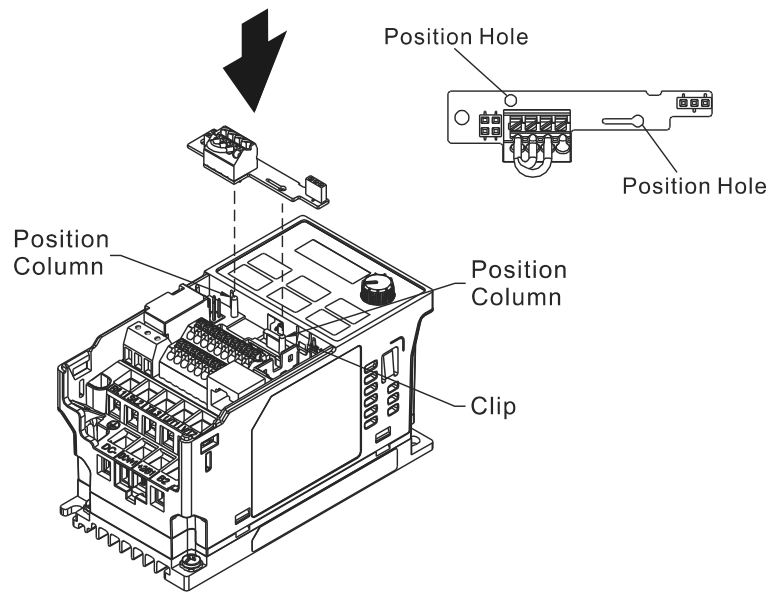

Figure 8-2
2. Mounting the connector: as shown in Figure 8-2, aim the adapter/option card at the connector on the control board, and then insert it to the connector.